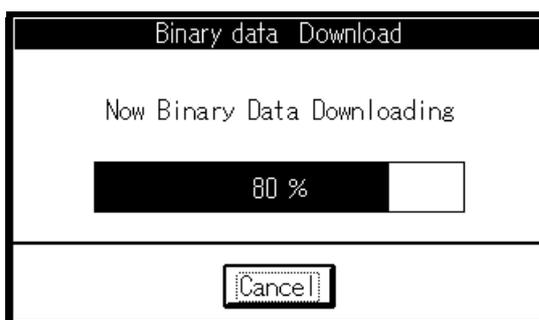

Figure 5-6 Example of dialog box displayed when downloading a file
- When you click on the OK button, PDB38M starts downloading your specified file. When downloading a file, it brings up a dialog box to show a message as in Figure 5-6. If you click on the Cancel button in this dialog box, PDB38M stops downloading a file. When PDB38M finishes downloading a file, this dialog box is automatically closed.